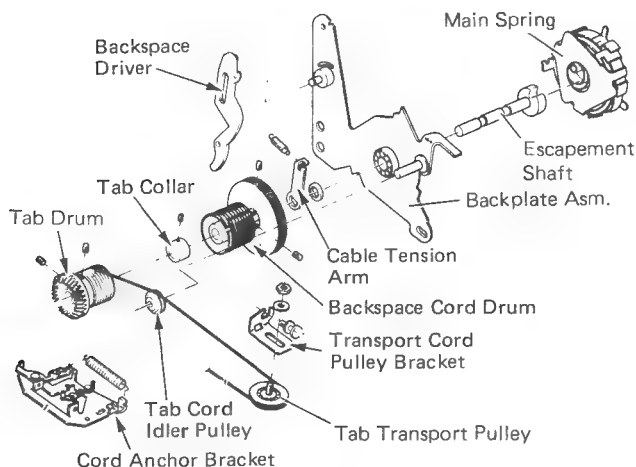

Figure 1
6. Remove escapement shaft. This can be done without removing the backplate. Break off the cable tension arm (Figure 1). Hold the tension arm with a screwdriver and turn the escapement shaft (with gas pliers). This may damage the escapement shaft hub, which will be replaced with the new level.